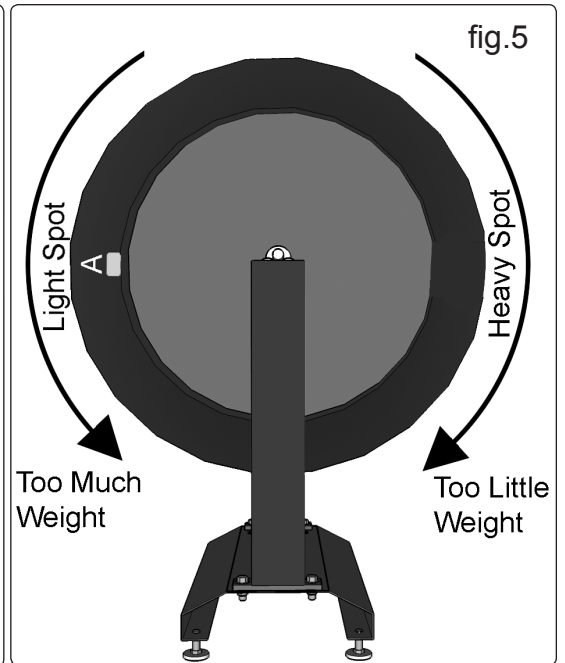

fig.5
**3.2.7** If the "light spot" falls to the bottom, too much weight has been added to the wheel. If the heavy spot falls to the bottom, not enough weight has been added to the wheel. Add / Remove weight as required (fig.5)
**3.2.8** Turn the "light spot" 90 degrees so it sits horizontally with the heavy spot and observe its movements, if again it falls to the bottom, too much weight has been added, if the "heavy spot" falls, too little weight has been added. (fig.5)